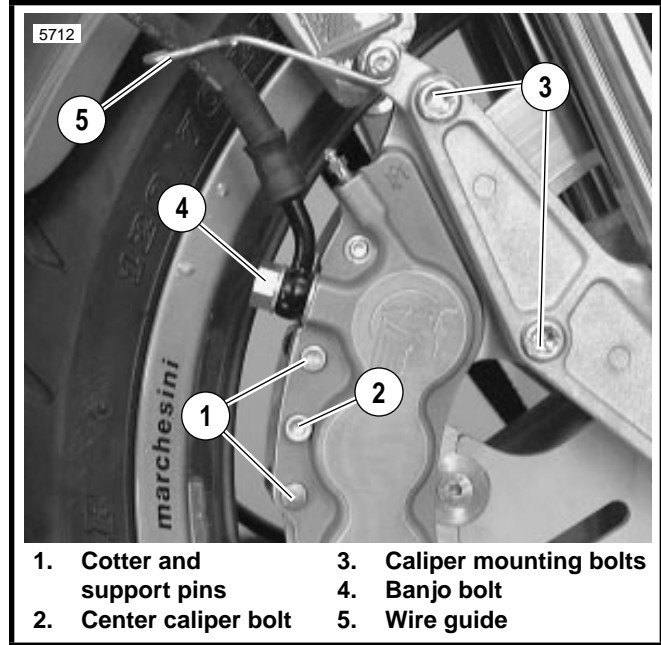
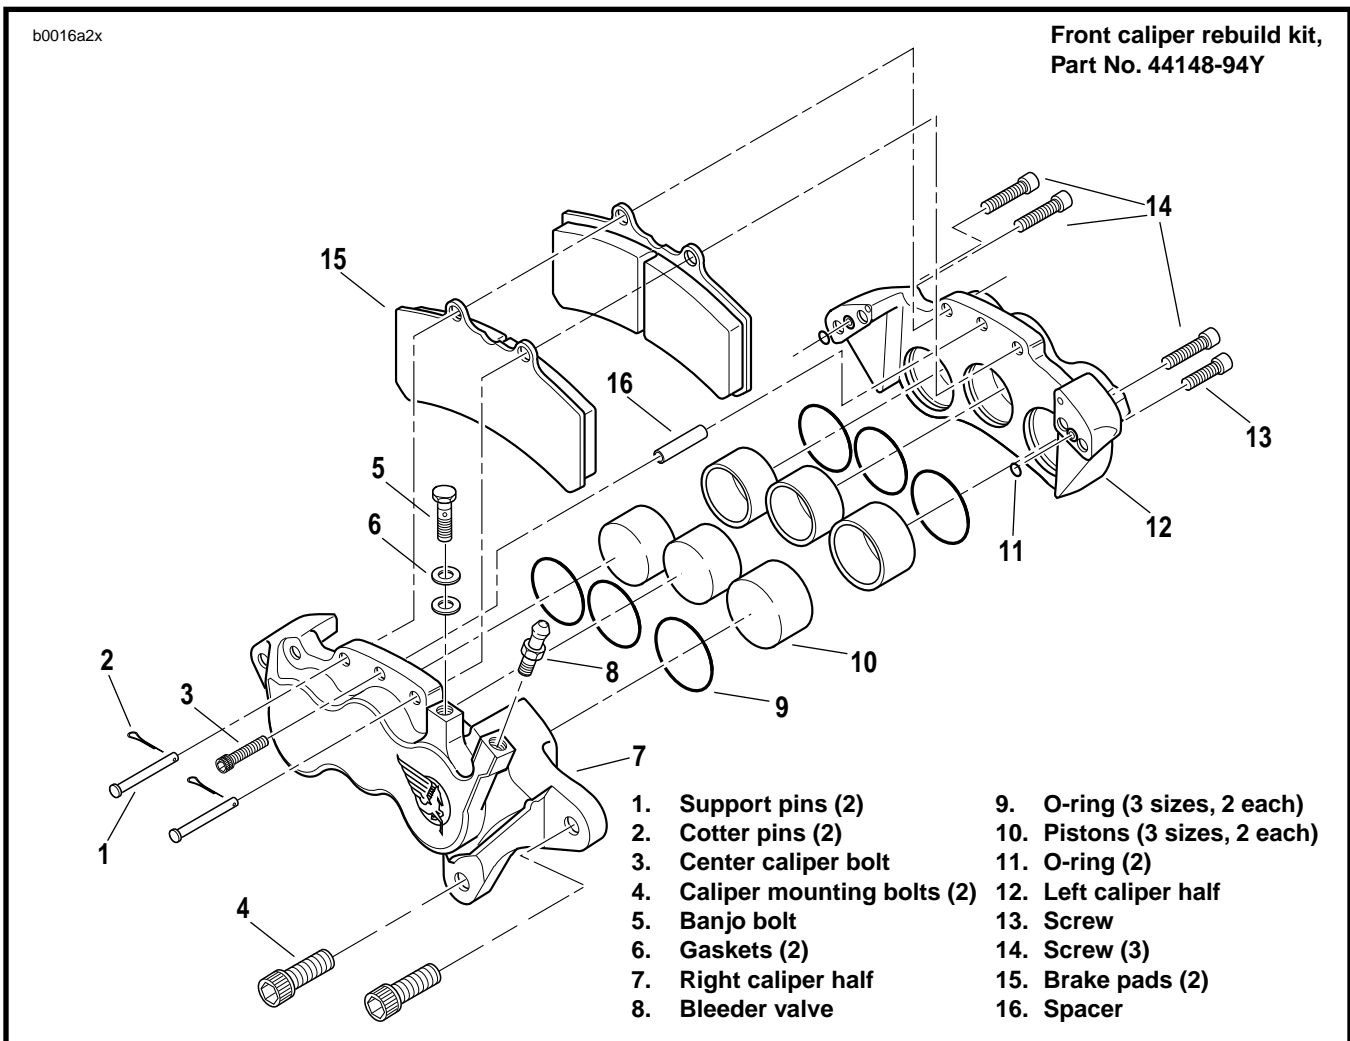

Figure 2-19. Front Brake Caliper Mounts
Figure 2-20. Front Brake Caliper
1. See Figure 2-19. Remove banjo bolt (4) and gaskets to disconnect brake line from caliper. Drain brake fluid into a clean, suitable container. Discard gaskets.
2. Remove cotter and support pins (1).
3. Remove center caliper bolt (2) and spacer.
5. Remove both caliper mounting bolts (3).
8. See Figure 2-20. Remove screws (13, 14) to separate caliper halves (7, 12). Remove O-rings (11) and discard.
10. See Figure 2-20. Pry O-rings (9) out of their respective grooves on each side of caliper. Discard O-rings.
1. See Figure 2-20. Install **new** O-rings (11) in groove of each caliper half (7, 12). Install **new** O-rings (9) in groove of piston bores.
2. Install pistons (10) in each caliper piston bore.
3. Tighten caliper halves together with four screws (13, 14). Smallest screw (13) is placed on top next to bleeder valve (8). Tighten screws to 26-28 ft-lbs (35.2-38.0 Nm).
2. See Figure 2-20. Tighten both caliper mounting bolts (4) to 30-33 ft-lbs (40.7-44.7 Nm).
3. Insert brake pads (15) from top.